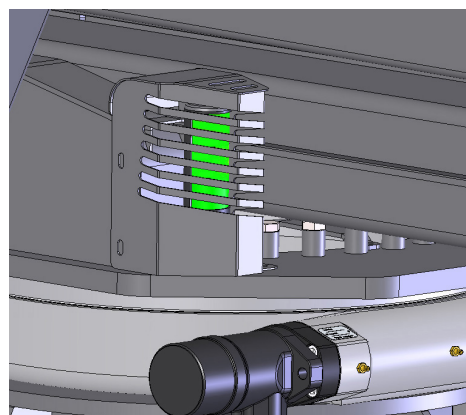

Fig 3.10
- Check the green lamp on the turntable, it must be switched on, to confirm that the boom is in central, low and retracted position (Fig. 3.10).
To retract the stabilizers, check that the green light on the turntable (Fig. 3.10) is lighted on. Turn the key 2 of fig. 3.1 on stabilizer symbol, use the accelerator lever part. 6 of fig. 3.4 and the lever from 1 to 4 in the upward direction of the stabilizers until the stabilizers are fully retracted.
To go back to rest position, retract the extension completely, close the jib, straighten the cage eventually rotated, put the chassis on axle rotating the turntable and lower with the first boom until the green light turns on (Fig. 3.10).
- Check the green lamp on the turntable, it must be on (Fig. 3.10).